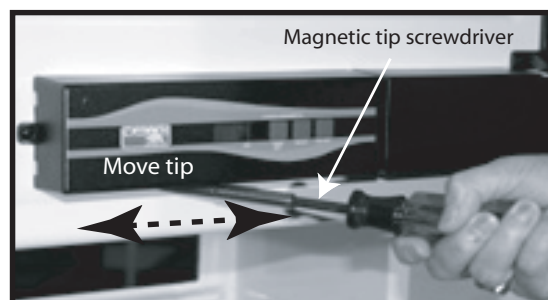

Figure 6. Lamp switch testing
1. Slide a magnetic screwdriver tip or a small magnet on the underside of the optical control assembly as shown in Figure 6.